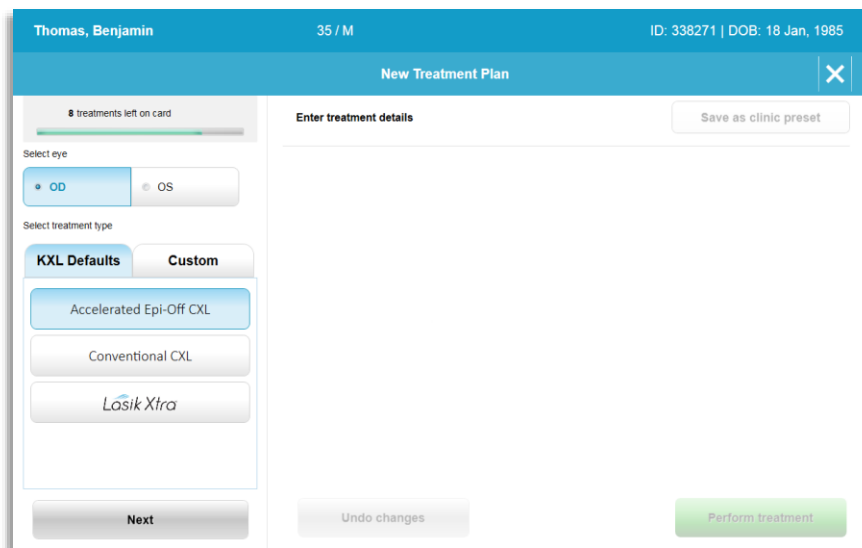

Figure 3-8. Select Eye
- In the example below, the user selects “Continuous” UV treatment mode by pressing the dropdown menu to the right of “UV Delivery” as shown in Figure 3-8.